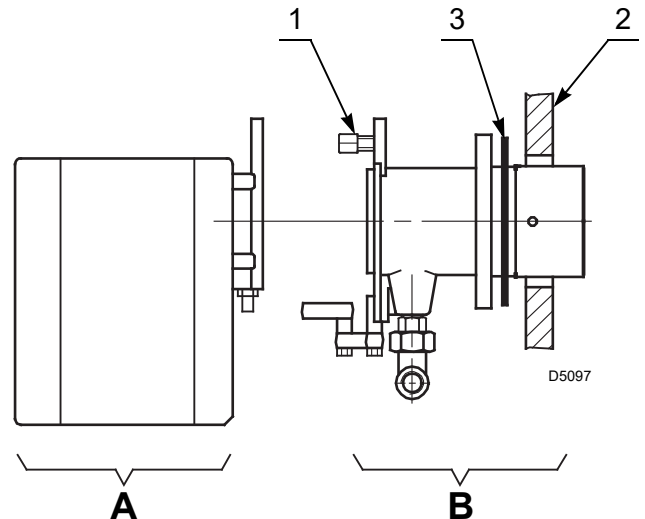

Fig. 9
- Separate the combustion head assembly from the burner body by removing nut 1) and removing the group A)(Fig. 9).
- Fix the group B)(Fig. 9) to the boiler plate 2), inserting the supplied insulating gasket 3).